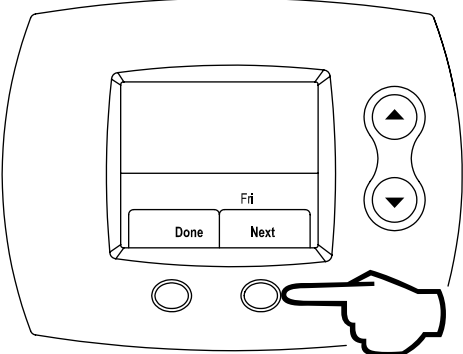

Figure 120
Step 3: Press the **RIGHT** (Next) button to edit the schedule water temperatures and times. This is shown in Figure 120.